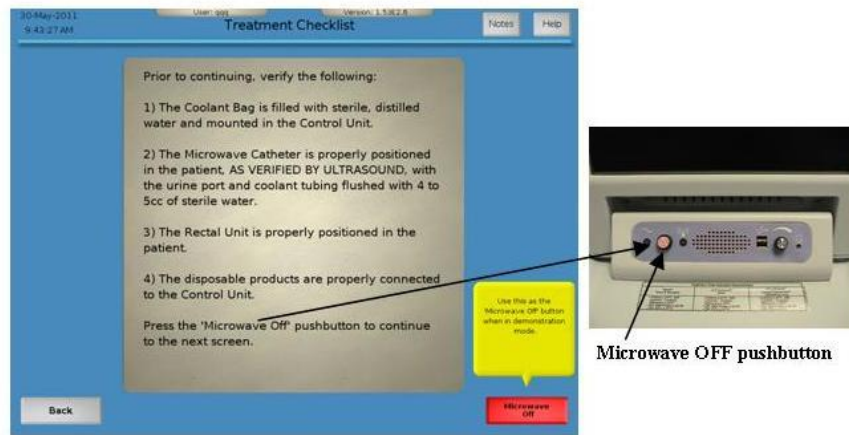

Figure 3-22. Treatment Checklist screen and Microwave Off pushbutton
1. Read the Treatment Checklist screen for information about the treatment (Figure 3-22). Prior to continuing this treatment, verify that all of these steps are complete.